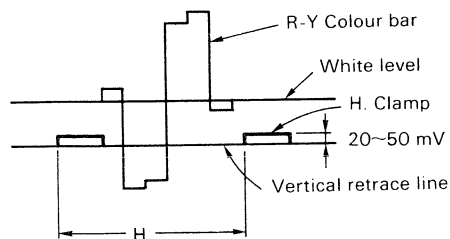

Figure 3.
5. Adjust LM54 so that the white level in picture part reaches to the vertical retrace line. (See Figure 3.)